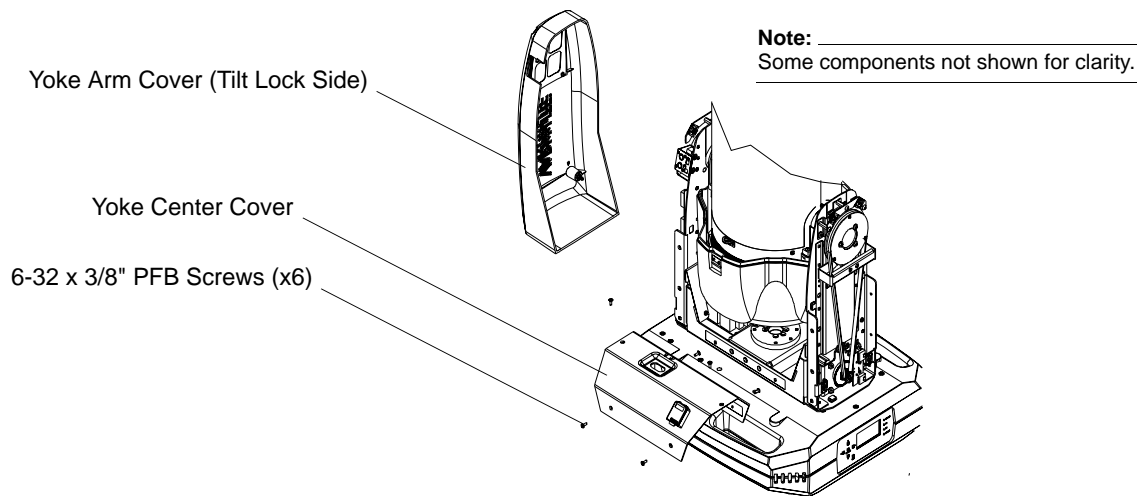

Figure 2-12: VLX Wash Yoke Center Cover
- Step 4. As shown in Figure 2-12, remove Yoke Center Cover by removing six 6-32 x 3/8" PFB screws.